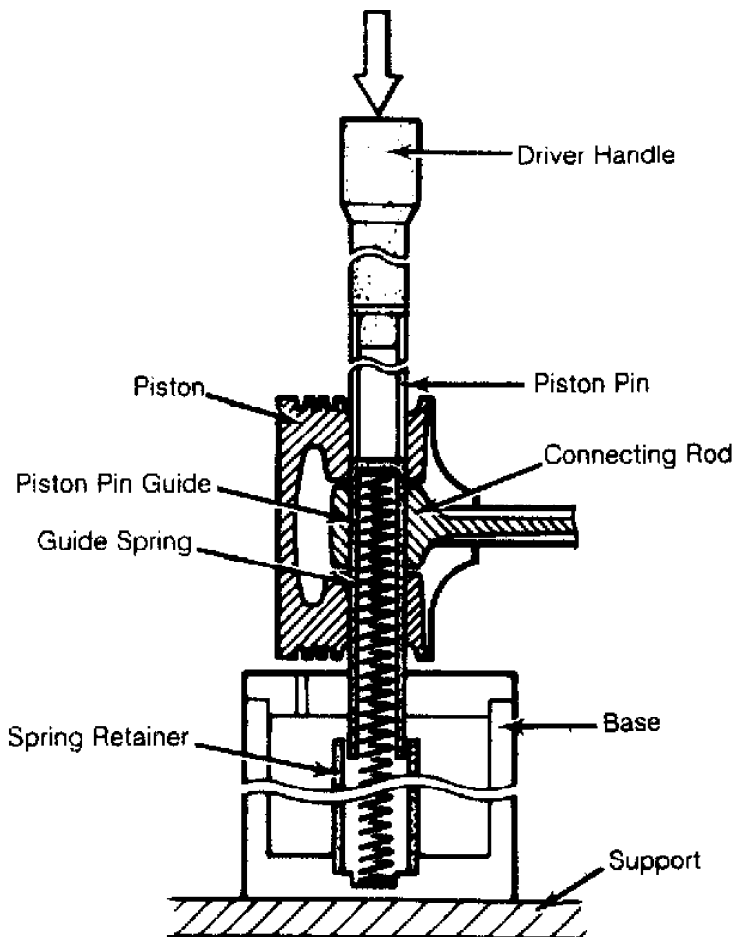

Fig. 14: Installing Piston Pin (1.3L SOHC)
6) Position piston upward. Align piston, pin and rod with Piston Pin Remover/Installer (09910-38211) for 1.3L SOHC. Press pin into piston and rod using a hydraulic press. See Fig. 14. On 1.3L DOHC and 1.6L engines, install circlips and piston pin.